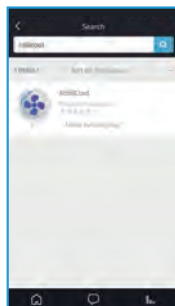

fig. 4
Step 1. Search “RolliCool” in the Amazon Alexa app home screen (fig. 4).